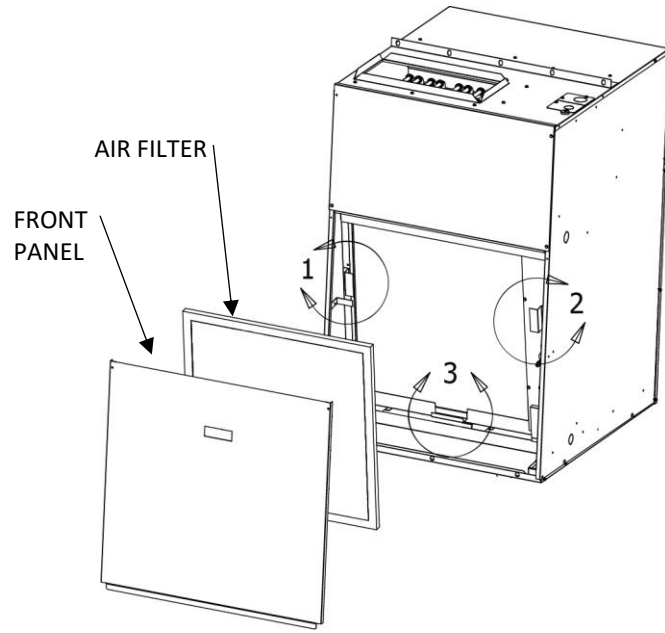

FIGURE 17 –Air Filter Location
5. Inspect the filter provided with the unit. If dirty or damaged replace. (**Figure 17- Air Filter Location**) Place the filter into the filter bracket.